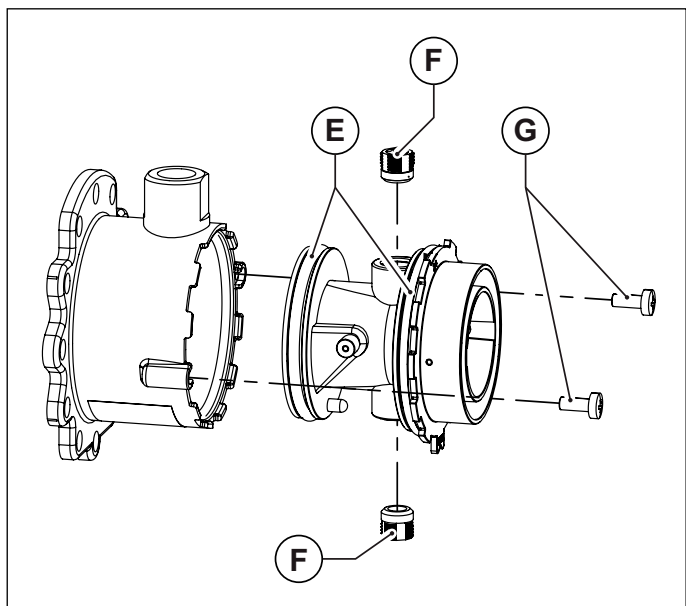

Fig. 36 Mixer plastic body
- Loosen the two retaining screws, and slide out mixer plastic body (see Fig. 36 Mixer plastic body).
- Using a 6 mm Allen wrench, loosen the two mixer nozzles (see Fig. 36 Mixer plastic body).
- To refit the plastic body (Venturi), insert it inside mixer and secure it in place with the retaining screws. Take care not to damage the O-rings assembled on plastic body ends (see Fig. 36 Mixer plastic body) and to respect the assembling direction (see Fig. 37 Assembling direction).
- Refit the reassembled mixer onto the fan with the socket head screws, making sure to insert the O-ring between mixer and fan (see Fig. 36 Mixer plastic body).